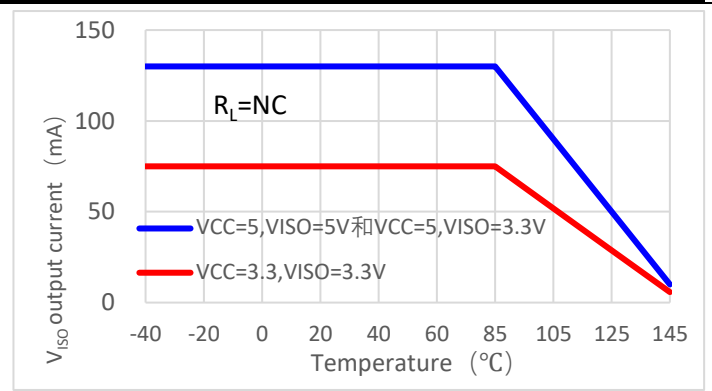
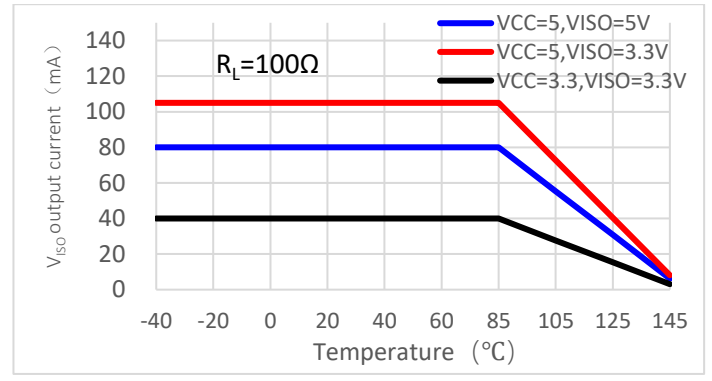

Figure 6-14.
Figure 6-16.
1. $DE = V_{CC}$, $\overline{RE} = 0V$, $DI = 0V$ or V_{CC} ; The available output current from V_{ISO} will be reduced when $T_A > 85^\circ C$, see Figure 6-14, Figure 6-16, Figure 6-18, the maximum output current of V_{ISO} vs. temperature.
The maximum output current from V_{ISO} is shown as Table 8-6. Note that the I_{ISO} value in Table 8-6 is the maximum output current at +25°C with data rate x load capacitance < 0.5Mbps x 2nF for CA-IS3092W/CA-IS3092VW (20Mbps x 200pF for CA-IS3098W/CA-IS3098VW). As the increase of temperature, especially when the temperature exceeds +85°C, the maximum load current will be decreased, see more details in Figure 6-14, Figure 6-16, and Figure 6-18.